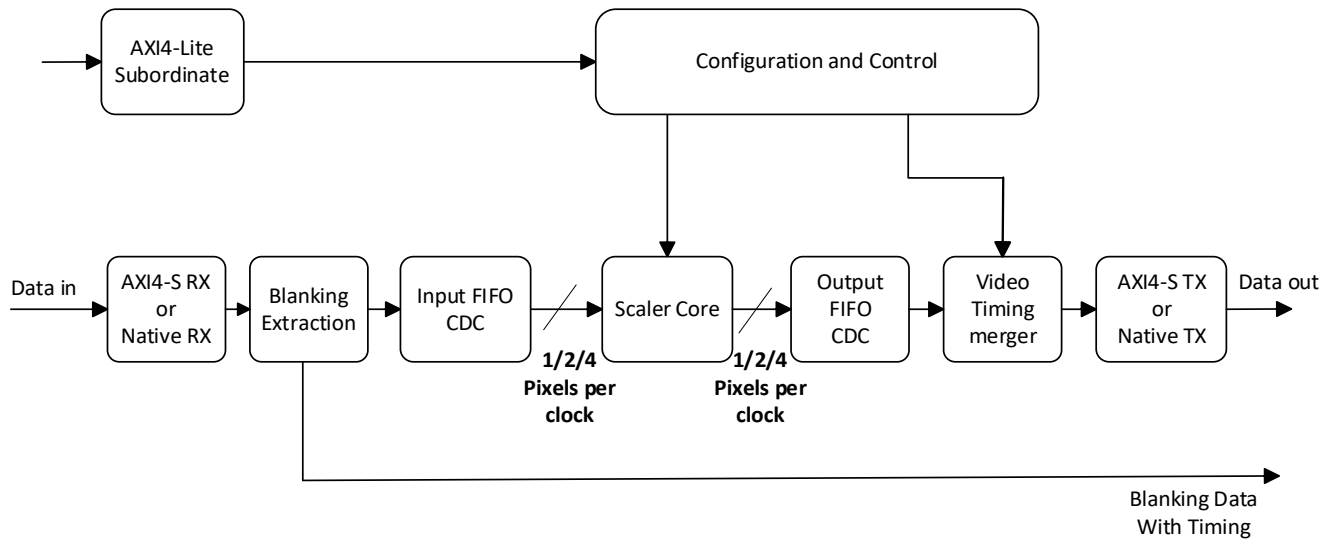

Figure 2.3. Video Scaler IP Core Block Diagram
The data flow diagram for Video scaler is shown in Figure 2.3. AXI-stream Rx and Tx interfaces are attached to the input and output of the scaler core. There are First In First Out (FIFOs) added on the input and output sides to cross the data between clock domains as well as to merge and split data for 2 and 4 pixels per clock support. As Figure 2.3 shows there is a blanking data extraction module at the input of the IP. The blanking data is extracted and passed out through separate dedicated outputs. The dynamic configuration of the IP and register access are supported through an AXI-Lite interface.
1. Receiver clock domain: all blocks left of the Input FIFO Clock Domain Crossing (CDC) module in Figure 2.3.